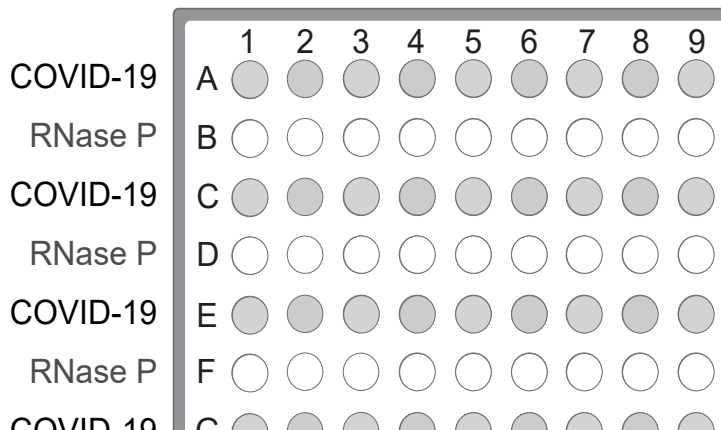

Figure 1 Assays in alternating plate rows
- a. Starting with row A, pipette 15.0 µL per well of the COVID-19 Reaction Mix into every other row of a MicroAmp™ Fast Optical 96-Well Reaction Plate with Barcode, 0.1 mL or a MicroAmp™ Optical 96-Well Reaction Plate with Barcode, 0.2 mL. See Figure 1 on page 52. Plates without a barcode can be used (see “Required materials not supplied” on page 11).